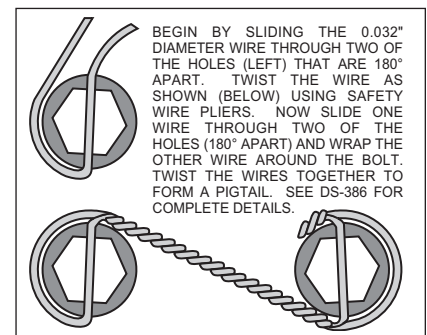

Figure 5. Safety Wire Diagram
- Slide the caliper mounting bracket kit assembly (1) onto the housing flange and then insert the axle assembly through the center hole of the caliper mounting bracket assembly (1). Align the bearing retainer (2) with the four holes inside the bracket assembly (1) and secure using the stock OEM bolts and nuts. Stock OEM hex nuts that retain the caliper mounting bracket assembly (1) and retainer (2) should be on the wheel side of the bracket. Apply red *Loctite*® 271 to the stock OEM bolt threads and torque to OEM specifications. Make sure the heads of the caliper mounting bracket assembly (1) insert nuts are FACING OUTWARD TOWARDS THE WHEEL.
- Bolt the hat (3) to the rotor (4) using washers (5) and bolts (6). Torque bolts (6) to 103 in-lb. Safety wire rotor bolts (6) using standard 0.032 inch diameter stainless steel safety wire as shown in Figure 5. Please refer to Wilwood's data sheet DS-386 (available at [www.wilwood.com/Pdf/DataSheets/ds386.pdf](http://www.wilwood.com/Pdf/DataSheets/ds386.pdf)) for complete safety wire installation instructions.
- Align the correct hole pattern in the hat (3) with the stud pattern on the axle flange. **NOTE:** Some OEM and after market axles come with stud sizes larger than 0.50" diameter. Verify stud size and have a qualified machine shop drill the hats to the correct size. Slide the hat/rotor assembly (3 and 4) over the wheel studs covering the mounting bracket assembly (1) and against the axle flange face.
- NOTE:** Please reference the caution statement at the beginning of the assembly instructions. WITH THE BLEED SCREWS POINTING UP, mount the caliper (7) over the rotor (4) and onto the caliper mounting bracket (1) using washers (8) and mounting bolts (9). View the rotor through the top opening of the caliper. The rotor should be aligned in the center of the caliper. If not, adjust the caliper by using 0.032 inch shims (10) by placing them between the caliper mounting bracket (1) and the caliper (7). Apply red *Loctite*® 271 to the mounting bolt threads (9), torque to 30 ft-lb. Safety wire the caliper mounting bolts (9).
- Position the Wilwood disc brake pads (11) into the caliper (7) and fasten with cotter pin (12). Steel backing plate side of brake pad should face the caliper pistons.
- NOTE:** Clevis and cable kits which attach to the parking brake assembly are not included in the Wilwood parking brake kit. Wilwood offers a generic style parking brake cable kit, P/N 330-9371 for this application which can be ordered separately from your local Wilwood dealer or by calling Wilwood customer service at (805) 388-1188.
- Before final installation of the wheel, install a couple of lug nuts and adjust the parking brake shoes outward (using a drum shoe adjustment tool available at your local auto parts store) while spinning the hat (3) until a slight drag is felt again the hat/drum.